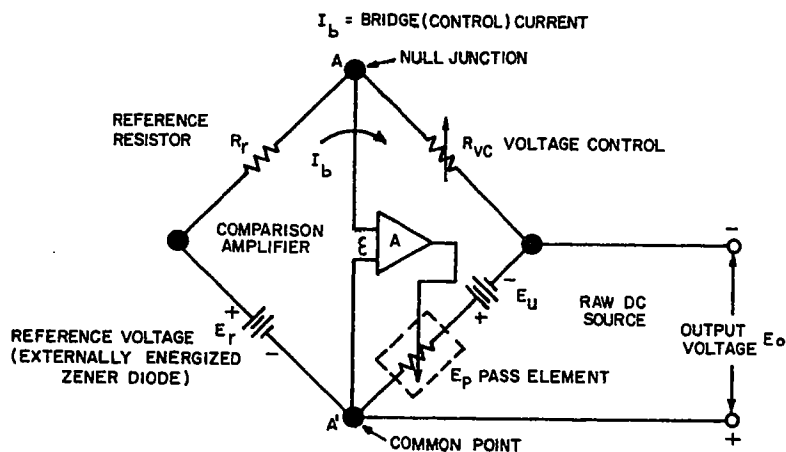

FIG. 3-4 KEPKO POWER SUPPLY AND COMPARISON BRIDGE CIRCUIT.
3-9 GENERAL. Electrically, the power supply consists of the raw d-c source (E_U), the pass element (E_P), the d-c error amplifier (A) and a comparison circuit which resembles a four-arm electrical bridge. (Refer to FIG. 3-4). The elements of the bridge are arranged to produce a virtual zero at the amplifier input when the bridge circuit is at balance ($V_{AA'} = 0$, when $E_r/R_r = E_o/R_{VC}$). Any tendency for the output voltage to change in relation to the reference voltage (E_r) creates an error signal (ϵ) which, amplified by the d-c error amplifier, tends to correct the output voltage towards restoration of bridge balance.